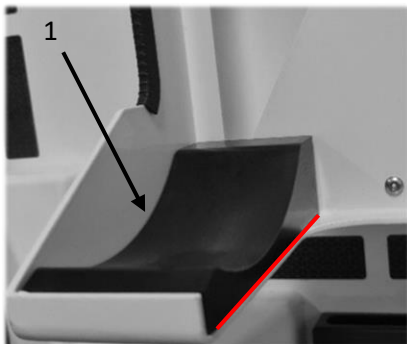

Figure 10: Wheel mounts
The Xlevator has one left and one right wheel mount (Fig. 10) (1). Left and right are the corresponding sides when the Xlevator is viewed from the front as in Table 7: *Product overview* in Subsection 4.3 *Product overview*.
2. The right-angled inner edge marked in red (Fig. 10) is fitted flush. The opposite outer edge is rounded to fit over the weld seam. The right wheel mount is a mirror image of the left.
3. Attach the new wheel mount (1) using the three new M8x12 countersunk head screws (2) with a tightening torque of 8 Nm.